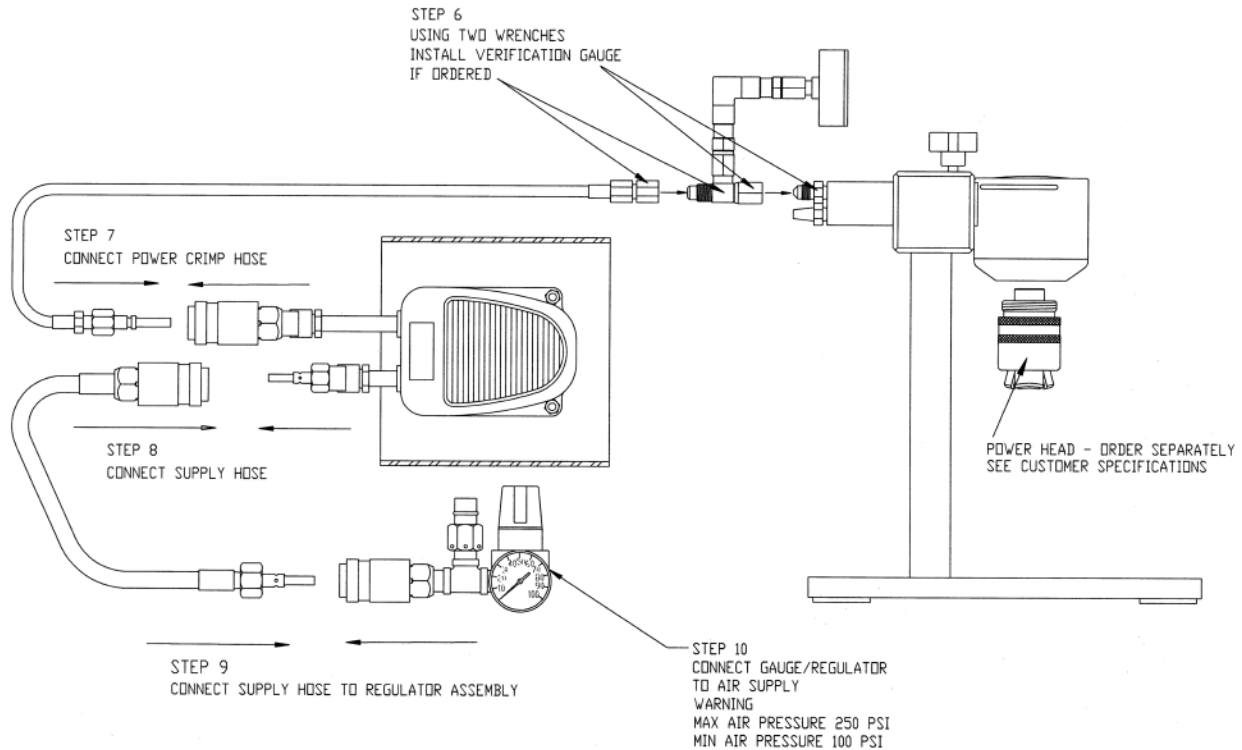

FIGURE 1-6
STEP 1: Set the air pressure to zero psi. Turn the regulator adjustment knob (Figure 1-6) counter clockwise to decrease the air pressure to zero psi.